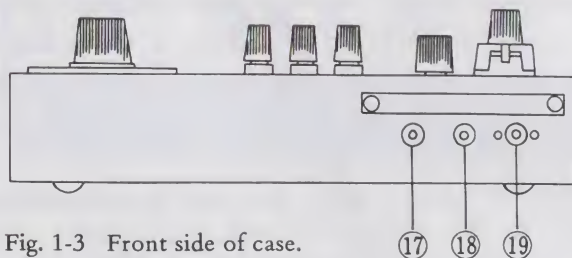

Fig. 1-3 Front side of case.
(15) Cover fastener for the battery compartment.
(16) Carrying handle.
C. Front Side of Case, Fig. 1-3